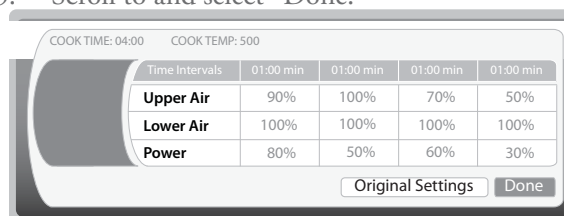

Figure 2.9: Advanced Cook Mode
- Select the setting to be adjusted and make the desired changes (Figure 2.9).
- Select “Done” to confirm changes or “Original Settings” to cancel changes (Figure 2.9).